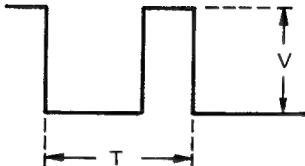

Figure 8-13.
2. Monitoring AK pin 7 with an oscilloscope (internal trigger), check that  $T = 20$  msec and  $V = 5.5 \pm 0.5V$  (see Figure 8-13).
3. Select VS-FF mode and check that  $T = 19.23$  msec and  $V = 5.5 \pm 0.5V$  with waveform developing at AK pin 7 (see Figure 8-13).
4. Select VS-REW mode and check that  $T = 20.76$  msec and  $V = 5.5 \pm 0.5V$  with waveform developing at AK pin 7 (see Figure 8-13).